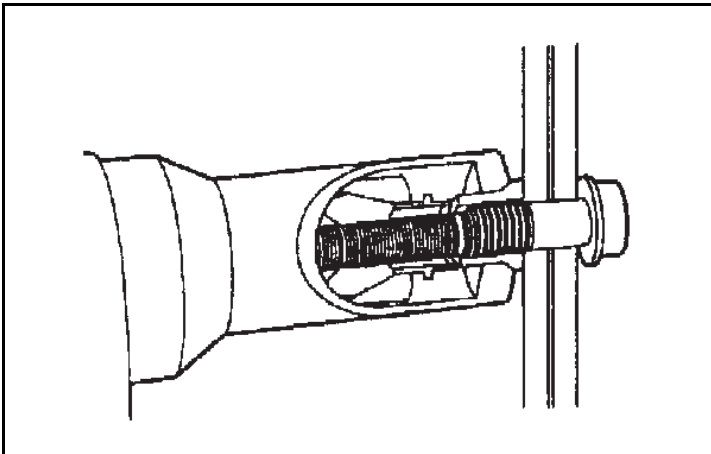
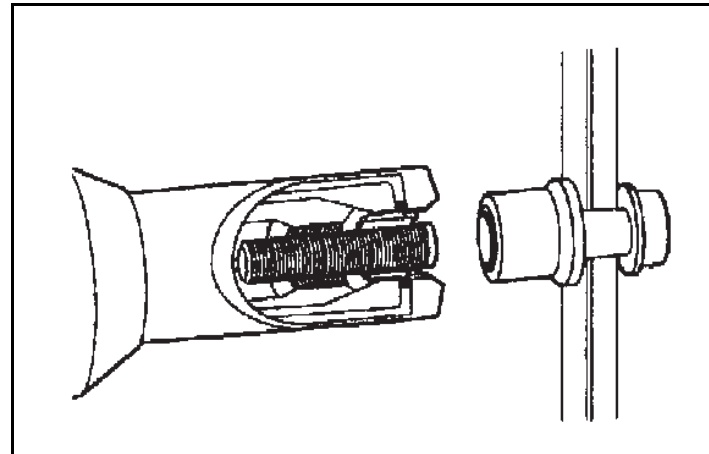

Figure 2.11 Clamping Force is Developed 01\_0021
Figure 2.12 Body of Fastener Separates at Breakneck 01\_0022
**NOTE:**The Huck installation tool creates a pulling force on the fastener, seating the bolt head and closing the gap between the mating surfaces. The collar is swaged into the pintail locking grooves developing clamping force (See Figure 2.11). As pulling forces further increase, the body of the fastener separates at the breakneck (See Figure 2.12), completing installation.